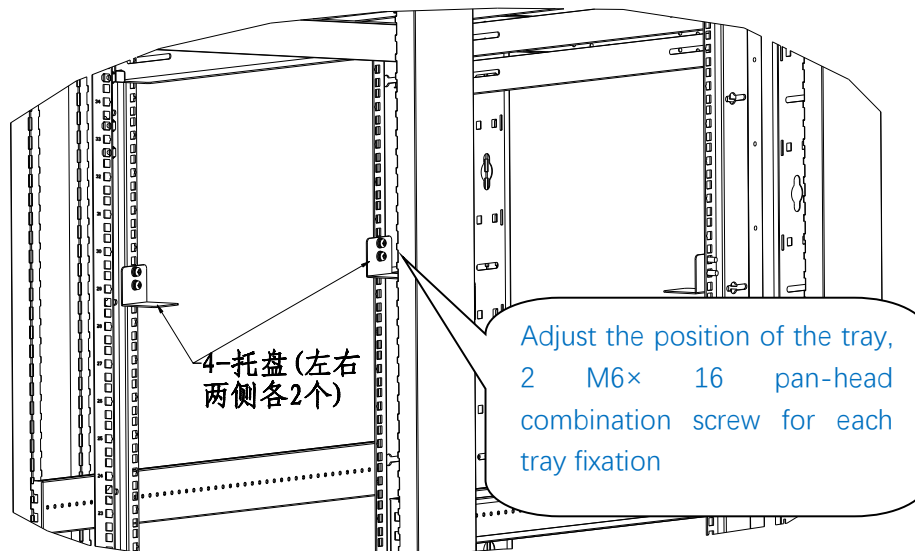

Figure 3-5 Tray Installation Diagram
Step 2: Install the tray on the cabinet, as shown in Figure 3-5 Tray Installation Diagram.